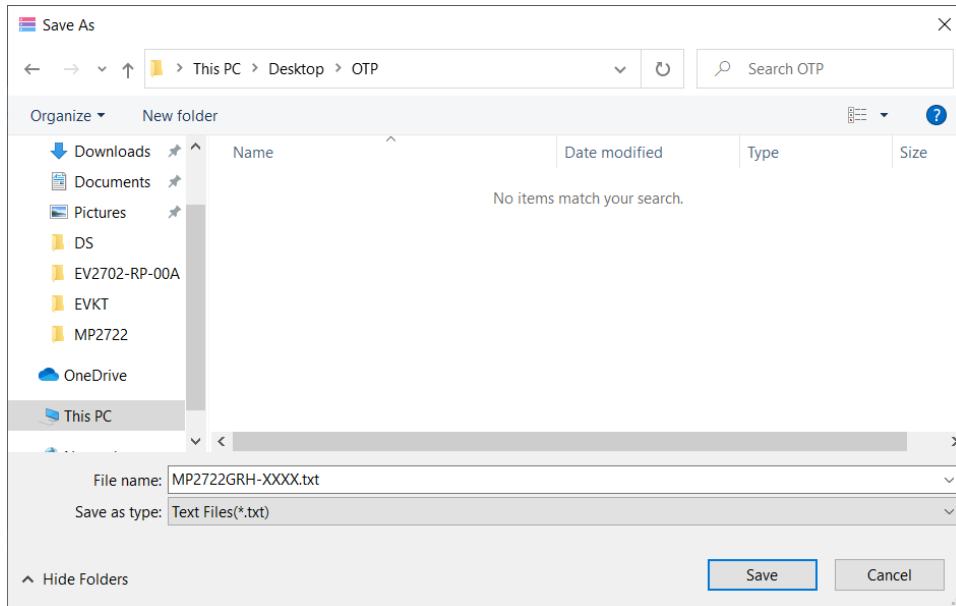

Figure 14: Export Text File
8. Find a location for the exported file and click “Save”. The configurations should be saved in a text file (see Figure 14).